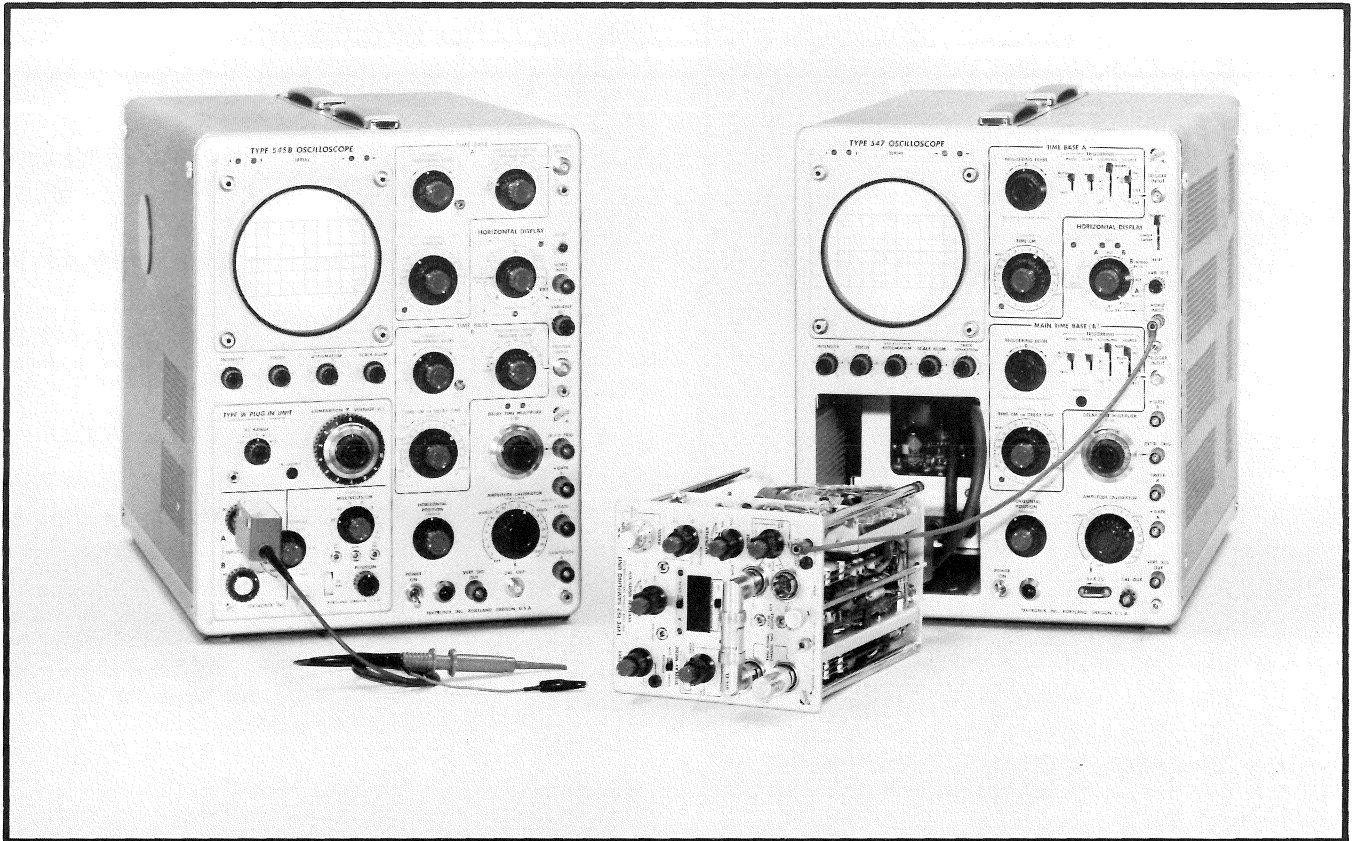

Fig. 7-25. Initial equipment setup for steps 26 through 37.
- a. Test equipment setup is shown in Fig. 7-25.